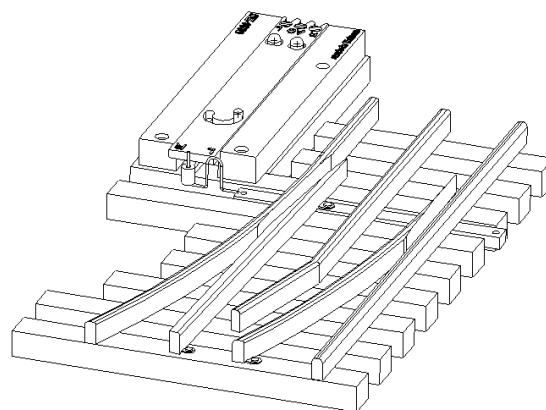

Figure 3
3. Place the DZ-1000 into position on the long tie (or onto the table) and fasten using the two $\frac{3}{8}$ " screws. Use two $\frac{3}{4}$ " screws if mounting to table. (Figure 3) **Do not over tighten screws.**